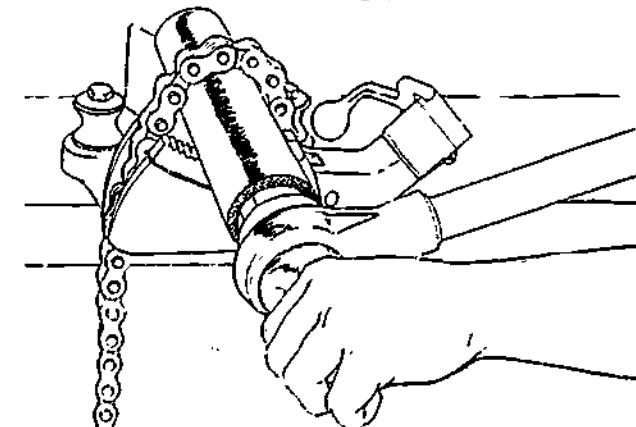

Figure 7-25. Showing a Reamer in Use
d) Figure 7-25 shows a reamer in use.